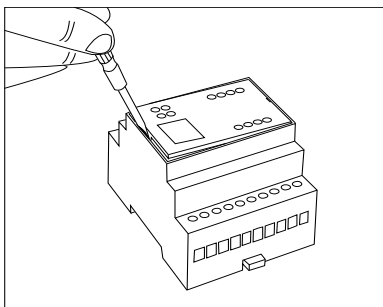

Figure 7.1.1
- Remove the cover with screwdriver (see the **figure 7.1.1**).